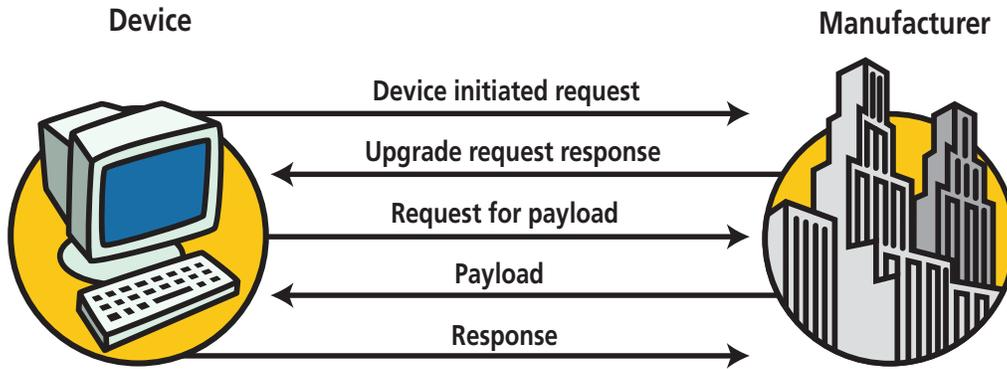

Figure 1 - The remote upgrade process.
- **GoAhead UpgradeAgent™** - the software that is embedded in the target device. Each agent is unique to the particular operating system that is resident on the target system. The target system containing the UpgradeAgent polls the UpgradeServer at regular pre-determined intervals to look for FPGA upgrades. When an upgrade is available, the device downloads the upgrade to a predetermined storage location. This process is illustrated in Figure 1.